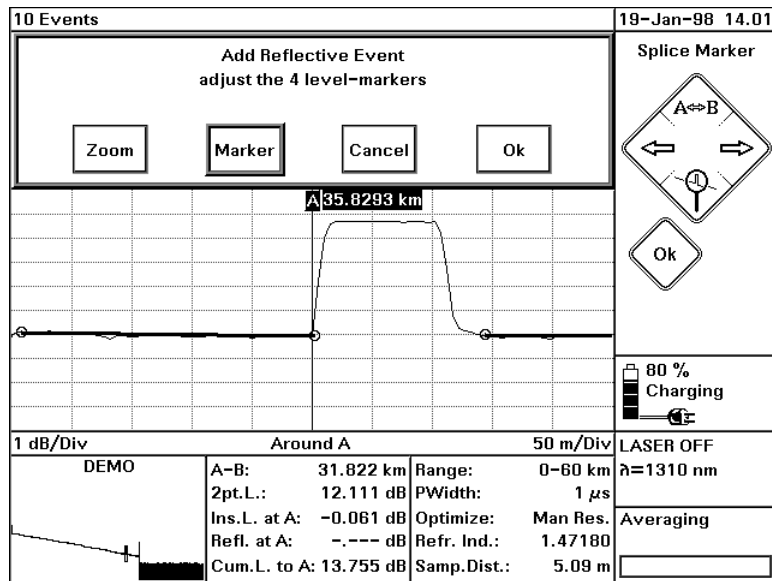

Figure 4-5
You now see 4 level-markers on the trace, and a message asking you to adjust them (Figure 4-5). These four level-markers allow you to analyze the Insertion Loss.
- 3 You now see 4 level-markers on the trace, and a message asking you to adjust them (see Figure 4-5).